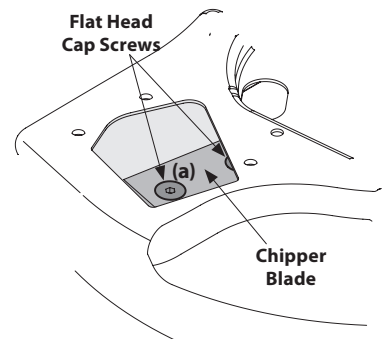

Figure 24
- Using a 3/16-inch allen wrench, remove the flat head cap screws (a) that hold the chipper blade to the impeller. These screws are accessible through the opening created when the chipper chute was removed earlier. See Figure 24.